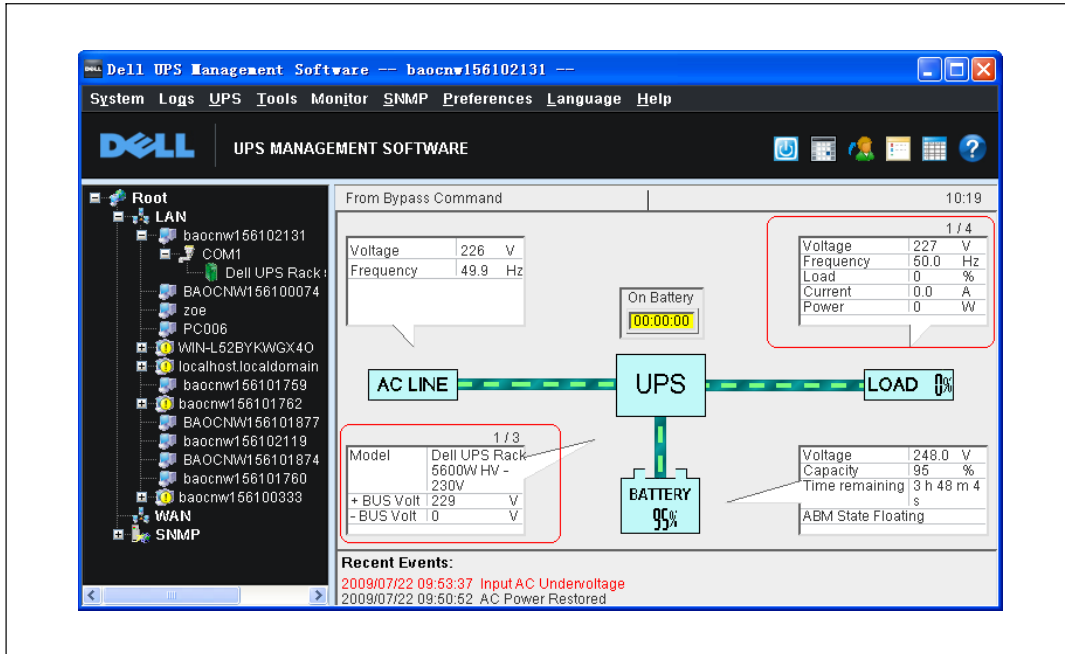

Figure 29. Data Boxes with Multiple Pages
Selecting one of the UPS models displays details about the UPS on the right side of the window (see Figure 29).
**NOTE:** Select a UPS model to display details about the UPS (see Figure 29 on page 28).